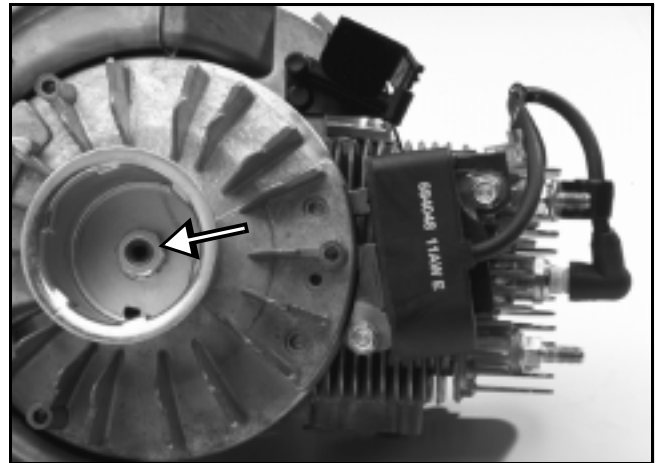

Figure 59
4. Torque flywheel nut to specifications (see Figure 59.)